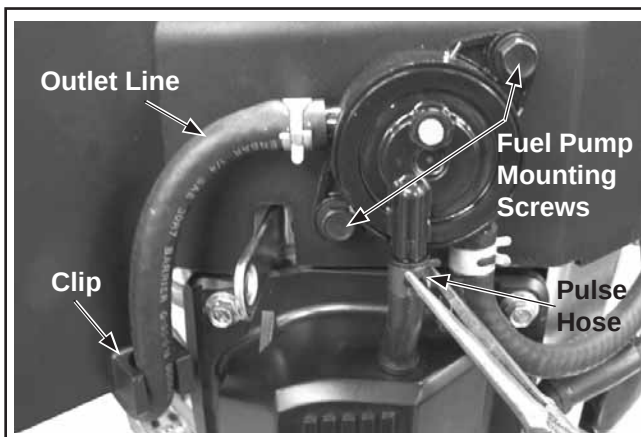

Figure 8-7. Removing Pulse Pump.
1. Disconnect the pulse (vacuum) hose and outlet fuel line from the fuel pump. See Figure 8-7.